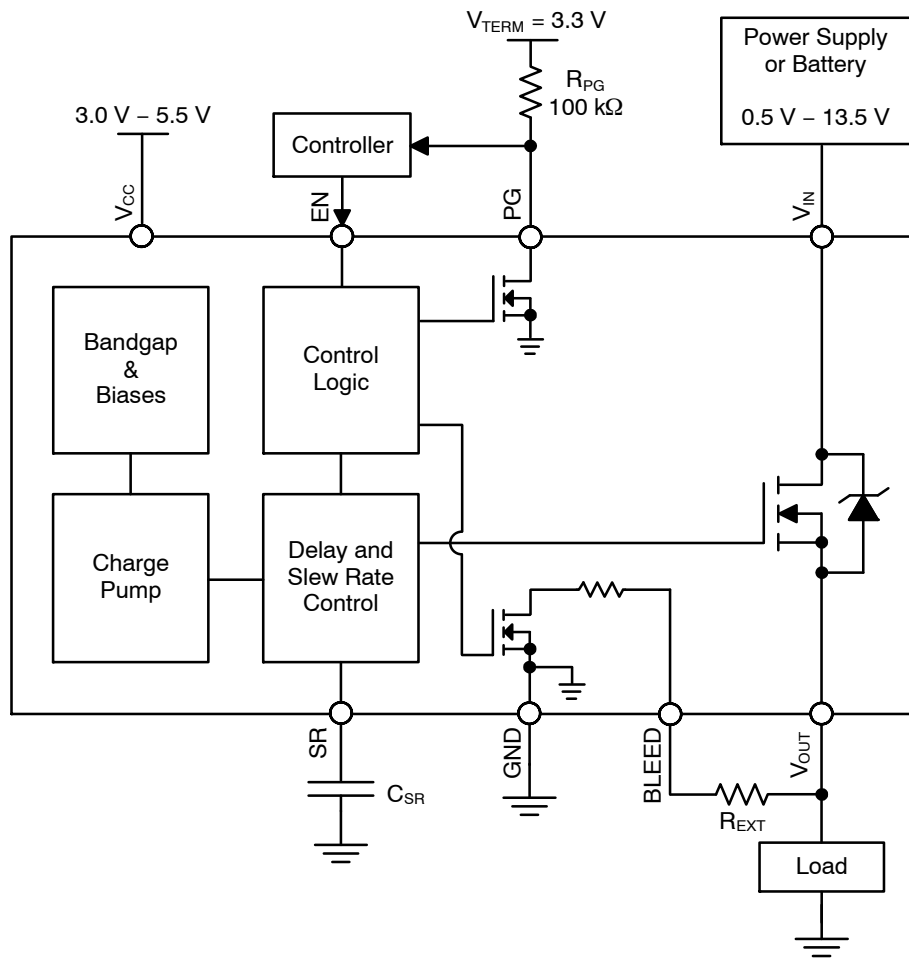
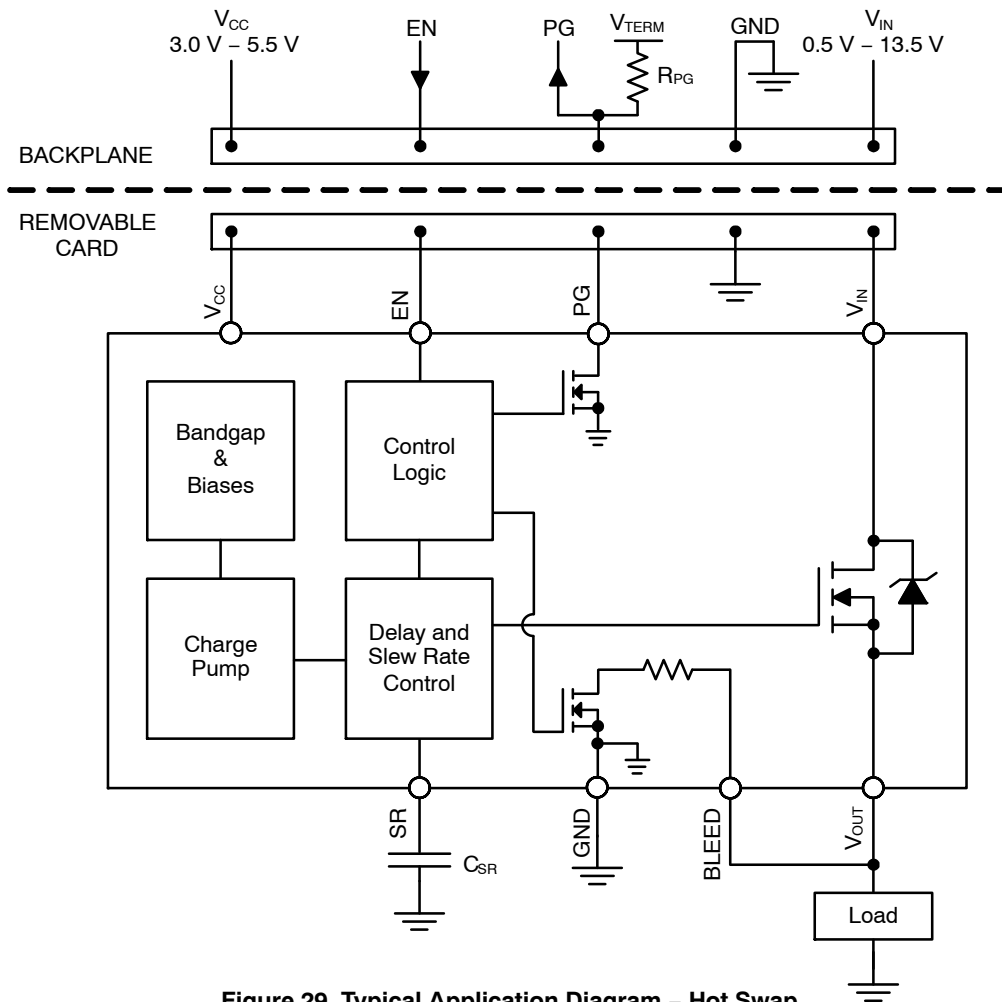

Figure 28. Typical Application Diagram – Load Switch
Figure 29. Typical Application Diagram - Hot Swap
It is required that the BLEED pin be connected to V_{OUT} either directly (as shown in Figure 29) or through an external resistor, R_{EXT} (as shown in Figure 28). R_{EXT} should not exceed $100\text{ M}\Omega$ and can be used to increase the total bleed resistance and decrease the load bleed rate.
The NCP45541 devices have a power good output (PG) that can be used to indicate when the gate of the MOSFET is fully charged. The PG pin is an active-high, open-drain output that requires an external pull up resistor, R_{PG} , greater than or equal to $1\text{ k}\Omega$ to an external voltage source, V_{TERM} , compatible with input levels of other devices connected to this pin (as shown in Figures 28 and 29).
The slew rate can be decreased with an external capacitor added between the SR pin and ground (as shown in Figures 28 and 29). With an external capacitor present, the slew rate can be determined by the following equation: